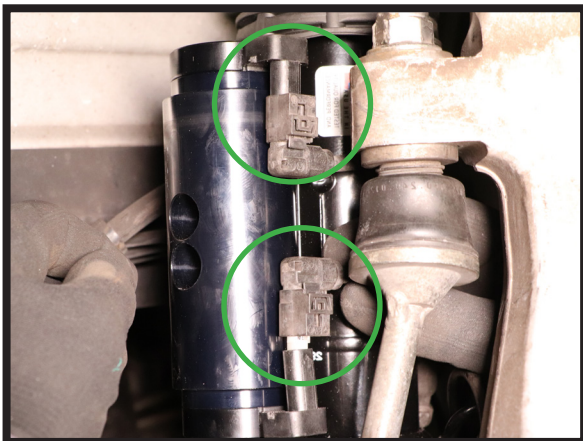

FIGURE 29
9. RECONNECT AND SECURE STRUT DAMPING COIL WIRES. (FIGURES 29, 30)